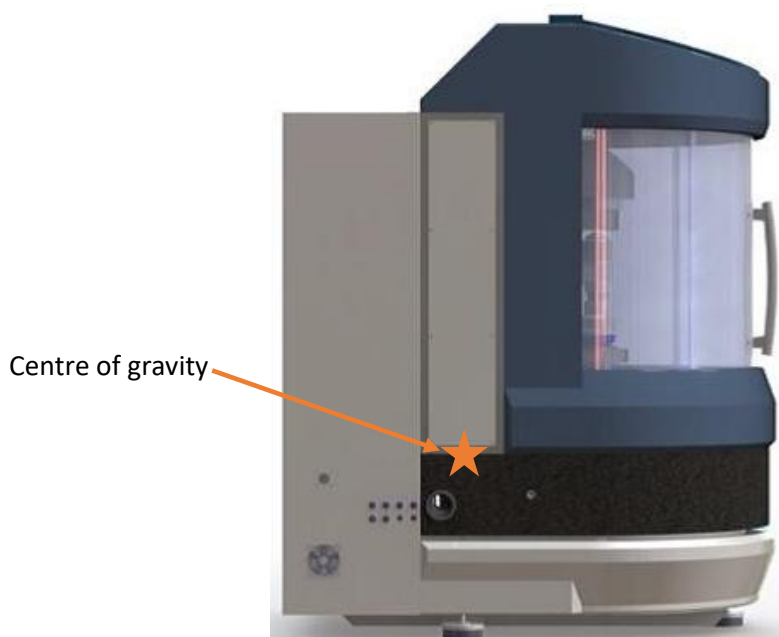

Figure 2 - Centre of gravity
- Note the centre of gravity shown in *(Figure 2 - Centre of gravity)*. Risk of Tipping Over!
ATTENTION: Please note the centre of gravity. See (Figure 2 - Centre of gravity).